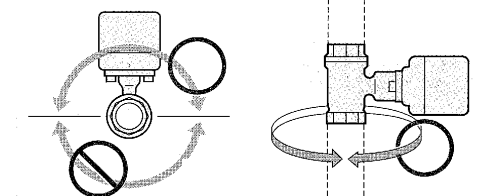

Fig. 23
- **Do not** mount an actuated valve facing downward to the ground to prevent possible water intrusion into the actuator interior. Mount it on piping horizontally, vertically or at any intermediate angle, depending on piping or operating convenience (Fig.23).